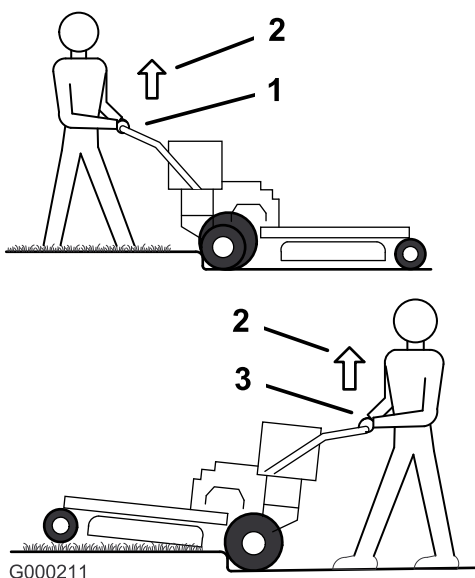

Figure 11
3. Drive machine until the caster wheels contact the curb (Figure 11).
4. Lift the front of the machine by pushing down on the lower handle (Figure 11).
5. Drive the machine until the drive wheels contact the curb (Figure 11).
6. Lower the front of the machine (Figure 11).
7. At the same time engage the lower control bar and lift up on the lower handle to drive over the curb (and Figure 11).
3. Drive the machine until drive wheels contact curb (Figure 11).